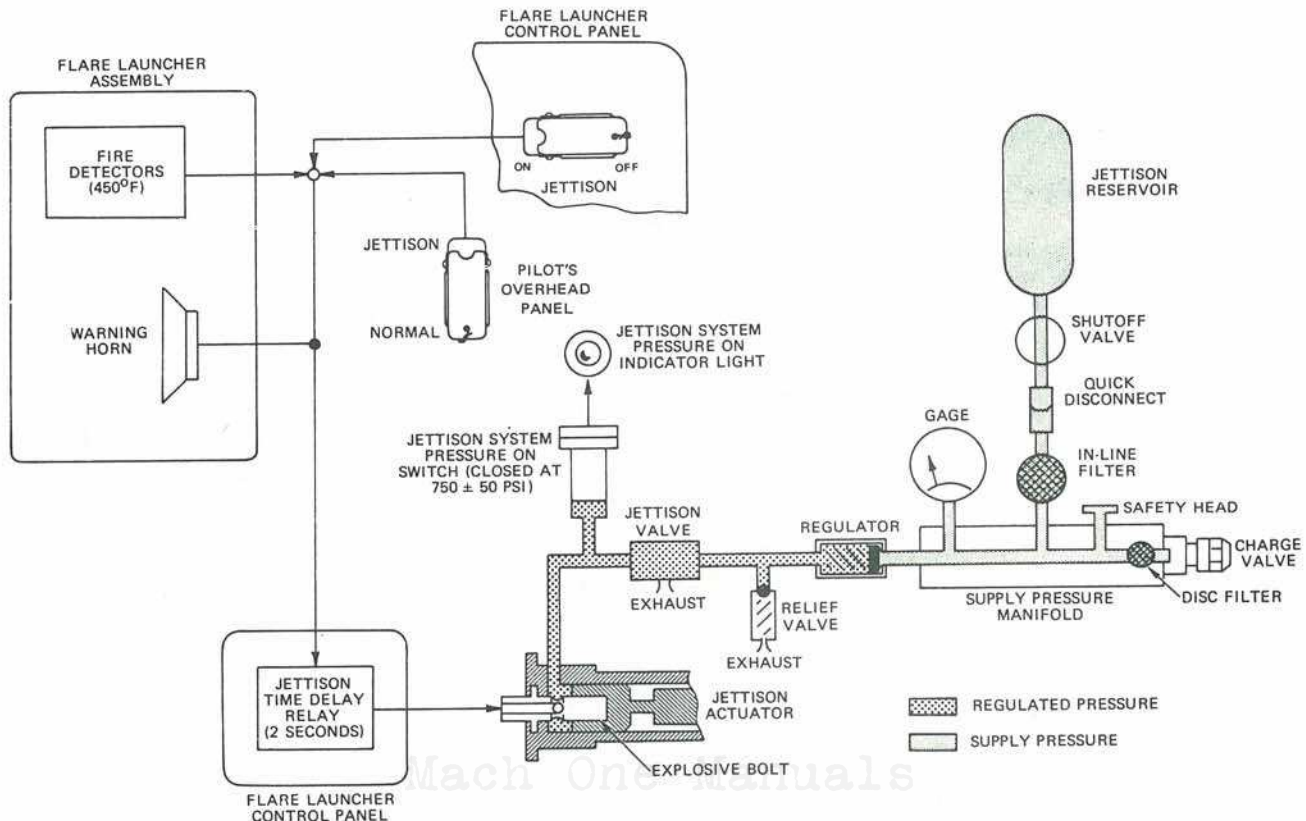

Figure 4-47
**AUTOMATIC JETTISONING.** (See figure 4-47.) The flare launcher will be automatically jettisoned when one or more of the six fire detectors located on the launcher assembly closes in response to a temperature above 450°F. The audible warning
**ELECTRICAL JETTISONING.** (See figure 4-47.) The flare launcher may be jettisoned electrically by positioning the pilot's jettison switch to JETTISON or by positioning the JETTISON